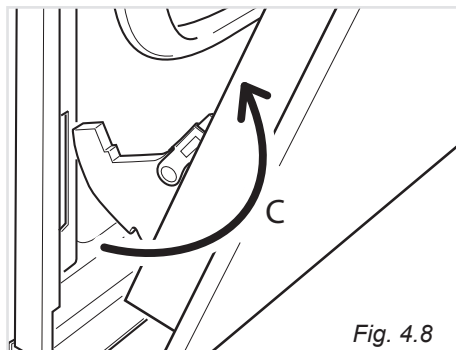

Fig. 4.8
- Withdraw the hinge hooks from their location following arrow "C" (Fig. 4.8).